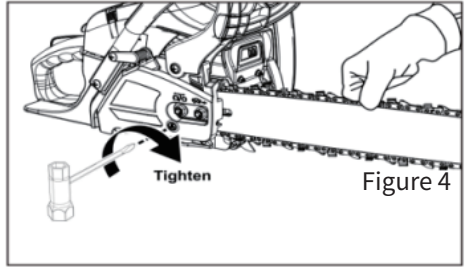

Figure 4
- Then, tighten the clutch cover nuts (see Figure 4).